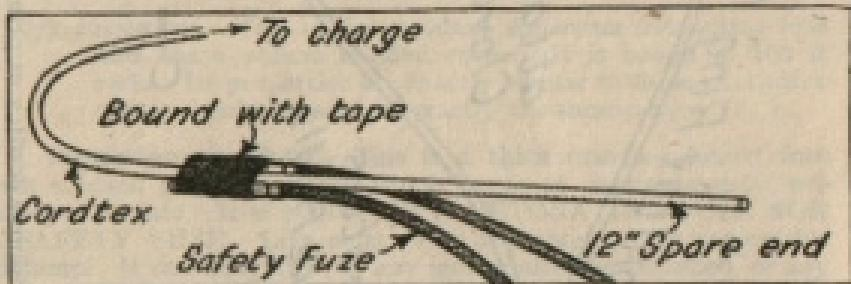

Fig 11. Initiation of cordtex (using 2 detonators to minimise risk of failure).
(b) Initiation.—Cordtex can be initiated by one detonator, but for the reasons given in para 4 (c) above two detonators should normally be used each with its own safety fuze. Lash the detonators firmly to the fuze as shown in Fig 11. See that the detonators are in good contact with each other as well as with the detonating fuze. It is particularly important that the closed ends of the detonators are lashed on in good contact with the fuze. The smallest gap may well cause failure. In emergency one detonator and safety fuze may be used. Where the detonating fuze is suspected
2. **Initiation.**—Use an improvised initiating set composed of 1 ft of detonating fuze fired by two detonator assemblies with detonator, safety fuze and igniter (see Fig 11). Make these sets up previously with sealing tubes at both ends of the detonating fuze. In the 2-in torpedo Mk I a primer is required; this fits into a recess at the male end of the tube. In the 1½-in torpedo a special primer is already in position; it contains a hole for the detonating fuze.